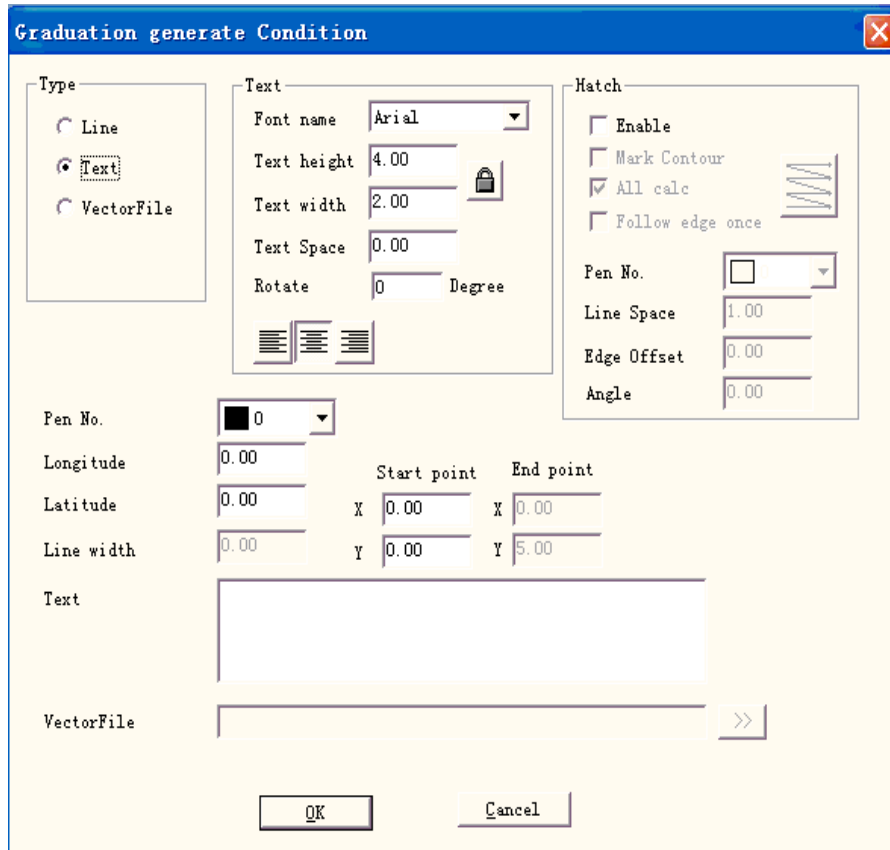

Figure 8-8
Step 2: Click menuitem **Rotary marking2** and the dialog box shown in Figure 8-8 popup.
Click “Add” presenting to edit the Globe, as shown in Figure8-8: